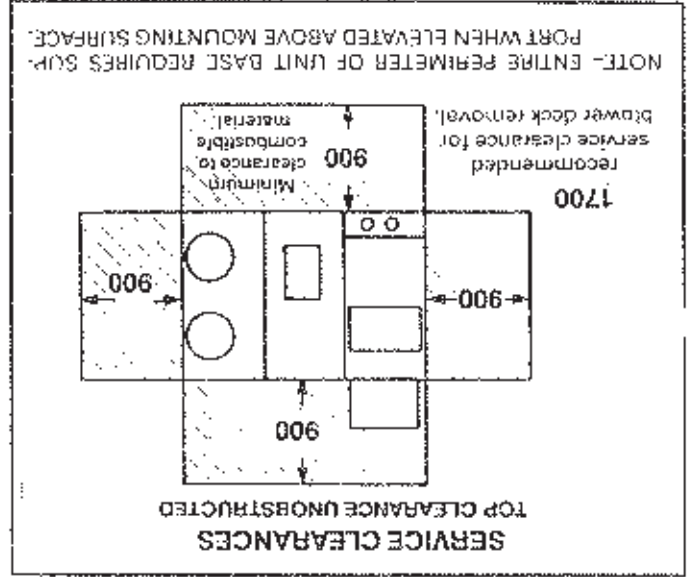

FIGURE 1
See figures 1 and 2 for unit clearances.
- 3 - Specified installation clearances must be maintained when installing units. Refer to figures 1 & 2 for return air opening. Refer to unit dimensions.